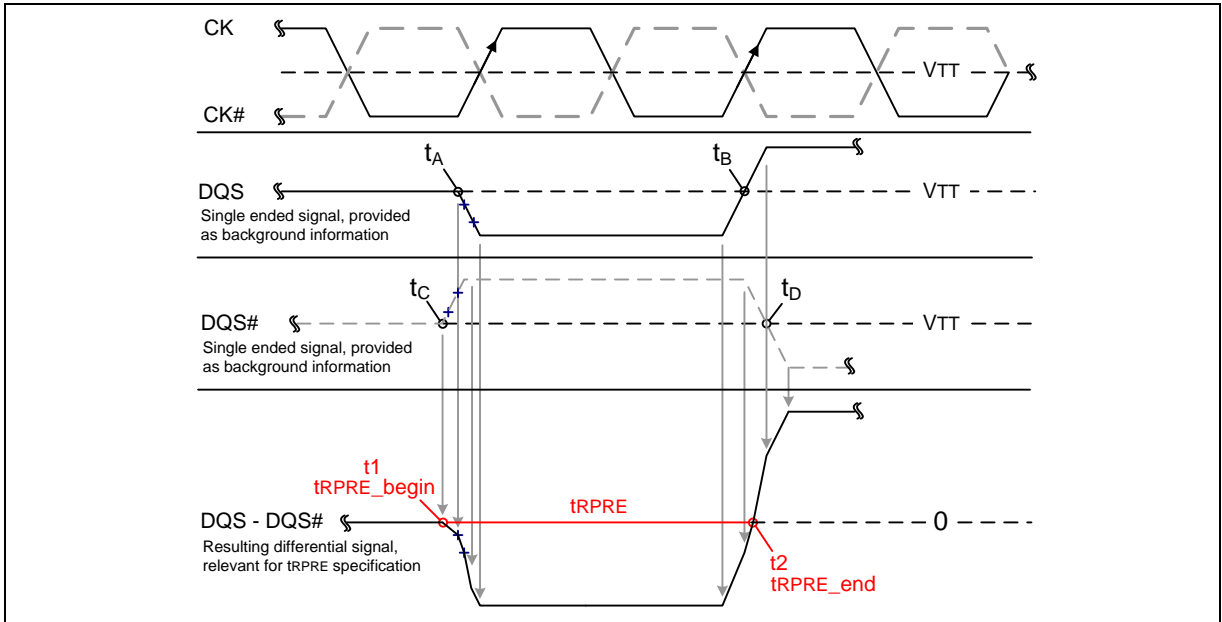

**Figure 26 – tLZ and tHZ method for calculating transitions and endpoints**
tLZ(DQS), tHZ(DQS) for preamble/postamble (see section 8.13.2.3 and Figure 26).
**8.13.2.3 tLZ(DQS), tLZ(DQ), tHZ(DQS), tHZ(DQ) Calculation**
tHZ and tLZ transitions occur in the same time window as valid data transitions. These parameters are referenced to a specific voltage level that specifies when the device output is no longer driving tHZ(DQS) and tHZ(DQ), or begins driving tLZ(DQS), tLZ(DQ). Figure 26 shows a method to calculate the point when the device is no longer driving tHZ(DQS) and tHZ(DQ), or begins driving tLZ(DQS), tLZ(DQ), by measuring the signal at two different voltages. The actual voltage measurement points are not critical as long as the calculation is consistent. The parameters tLZ(DQS), tLZ(DQ), tHZ(DQS), and tHZ(DQ) are defined as singled ended.